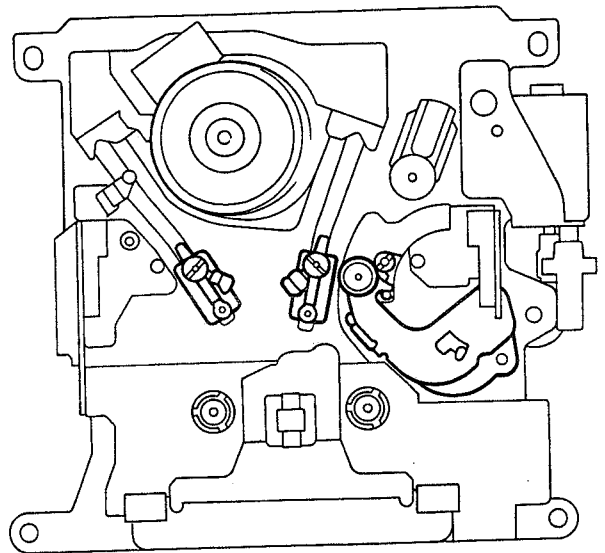

Fig. 14-2 Unthreading Mode
- ① Unthreading mode (Fig. 14-2)